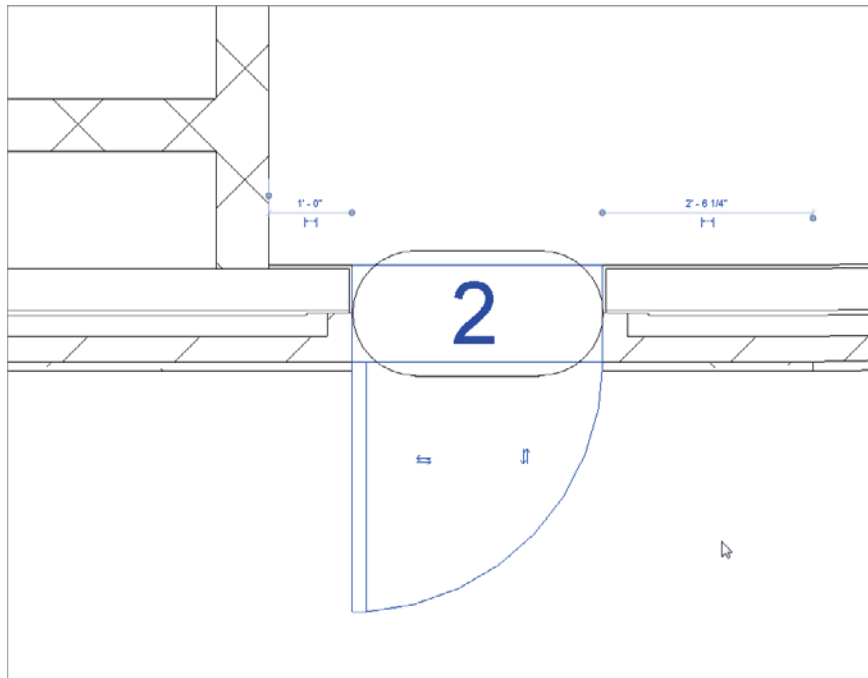

FIGURE 2.69 Changing the temporary dimension
3. As you know, in Revit Architecture, anything that turns blue can be edited. Click the blue dimension that extends from the CMU wall, drag it to the right of the elevator shaft, and change it to 1'-0" (300mm) (see Figure 2.69).